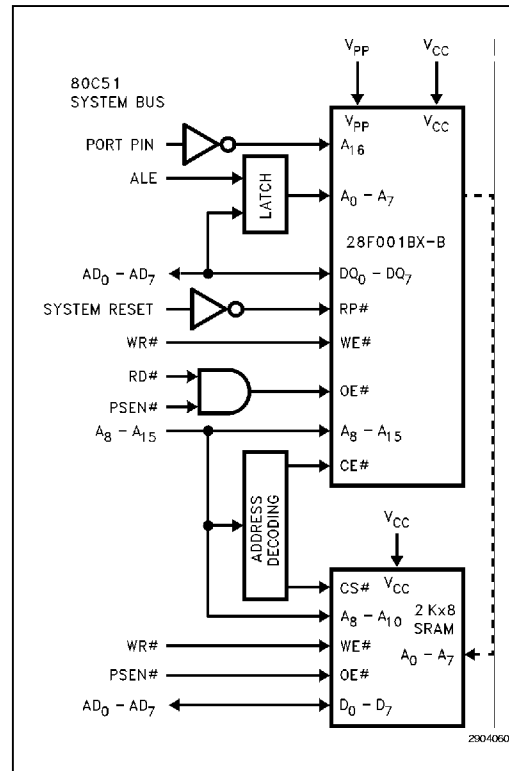

Figure 5. 28F001BX-B in a 80C51 System
-004	<p>Removed Preliminary classification.</p> <p>Latched address A16 in Figure 5.</p> <p>Updated Boot Block Program and Erase section: "If boot block program or erase is attempted while RP# is at VIH, either the Program Status or Erase Status bit will be set to '1,' reflective of the operation being attempted and indicating boot block lock."</p> <p>Updated Figure 11, 28F001BX Erase Suspend/Resume Flowchart.</p> <p>Added DC Characteristics typical current values.</p> <p>Combined VPP Standby current and VPP Read current into one VPP Standby current spec with two test conditions (DC Characteristics table).</p> <p>Added maximum program/erase times to Erase and Programming Performance table.</p> <p>Added Figures 13–16.</p> <p>Added Extended Temperature proliferations.</p>